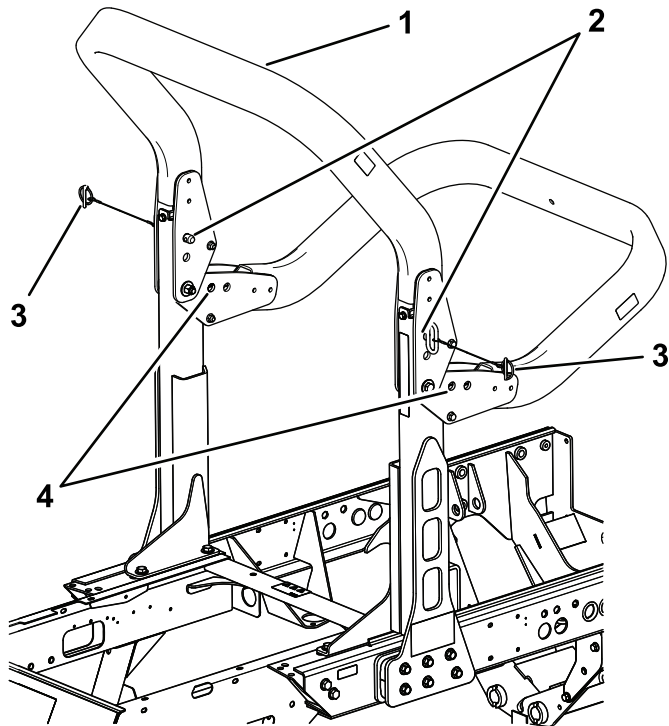

Figure 40
2. Support the weight of the upper frame of the roll bar while removing the snap pins and clevis pins from the pivot brackets (Figure 40).